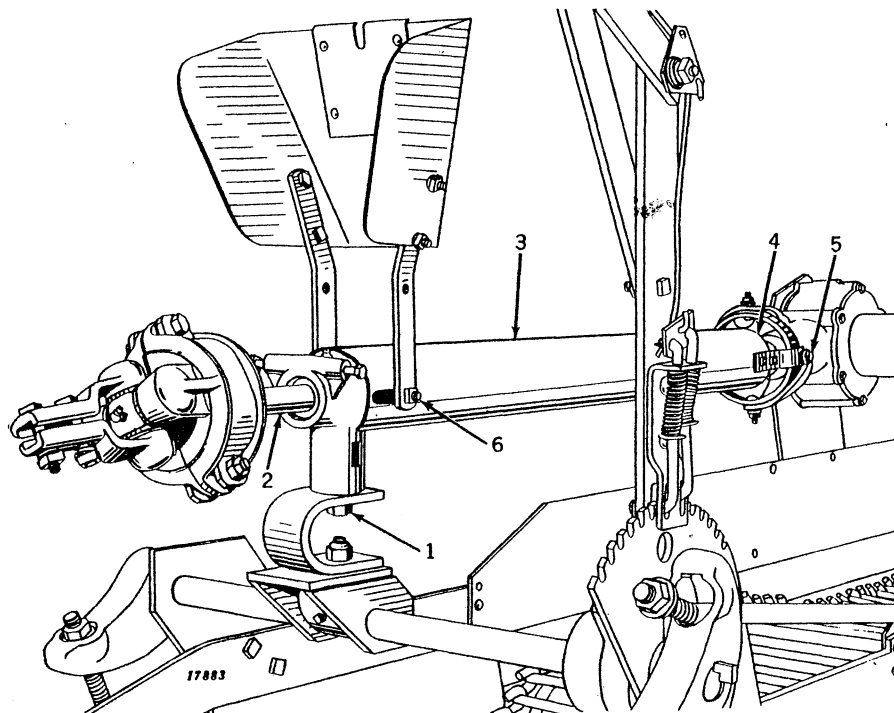

Figure 18
1. (Figure 18) Attach pedestal bearing to pedestal bearing support extension.
2. (Figure 18) Slide drive shaft assembly through the pedestal bearing.
3. (Figure 18) Slide guard tube assembly over the drive shaft.
4. (Figure 18) Fasten drive shaft into the gear case universal joint using the set screw and key (in bag).
5. (Figure 18) Attach guard tube to universal joint guard on gear case.
6. (Figure 18) Attach slip clutch guard and drive shaft guard to pedestal bearing.